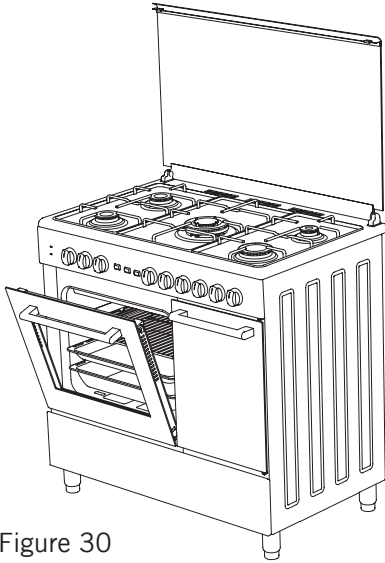

Figure 30
3. Place the safety panel under control panel by opening the oven front cover glass. (Figure 30)